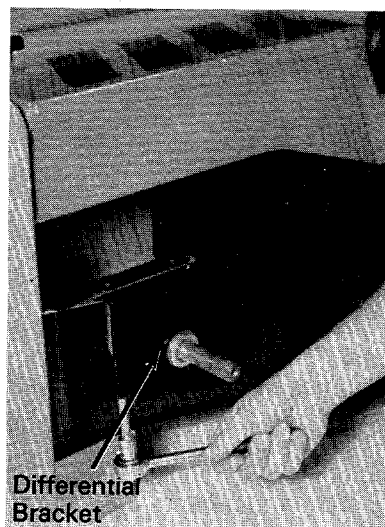

FIGURE 41.
1. To tighten the chain, loosen the two nuts on each side of the frame holding the differential bracket to the frame. See figure 41.